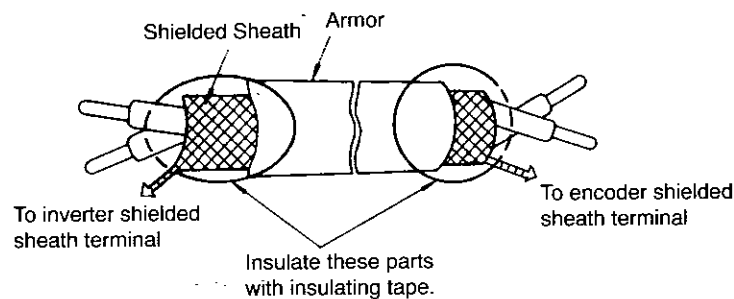

Fig. 15 Shielded Wire Termination (Shielded at Both Ends)
- Use twisted shielded wires for motor encoder signal lines and connect both ends as shown in Fig. 15.